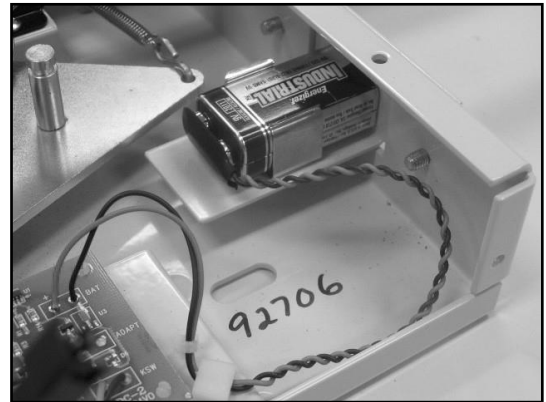

FIGURE 8
11. Once you have checked the alignment in the previous step, secure the lock bolt plate to the doorjamb with two (2) self-drilling torx screws. Finally, open and close the door making sure the door operates freely.
12. Install the 9 volt battery on the battery bracket assembly (See Figure 8).